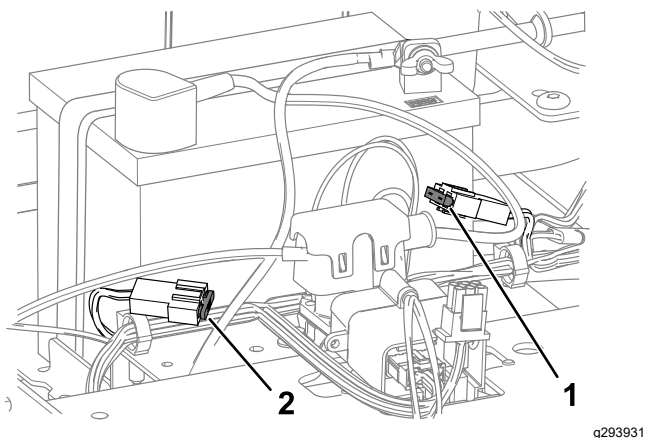

Figure 50
4. To replace a fuse, pull out the fuse to remove it (Figure 50).